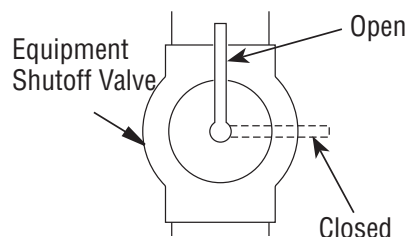

Figure 15 - Equipment Shutoff Valve
1. Close equipment shutoff valve (see *Figure 15*).
1. Open equipment shutoff valve (see Figure 15, Page 15).